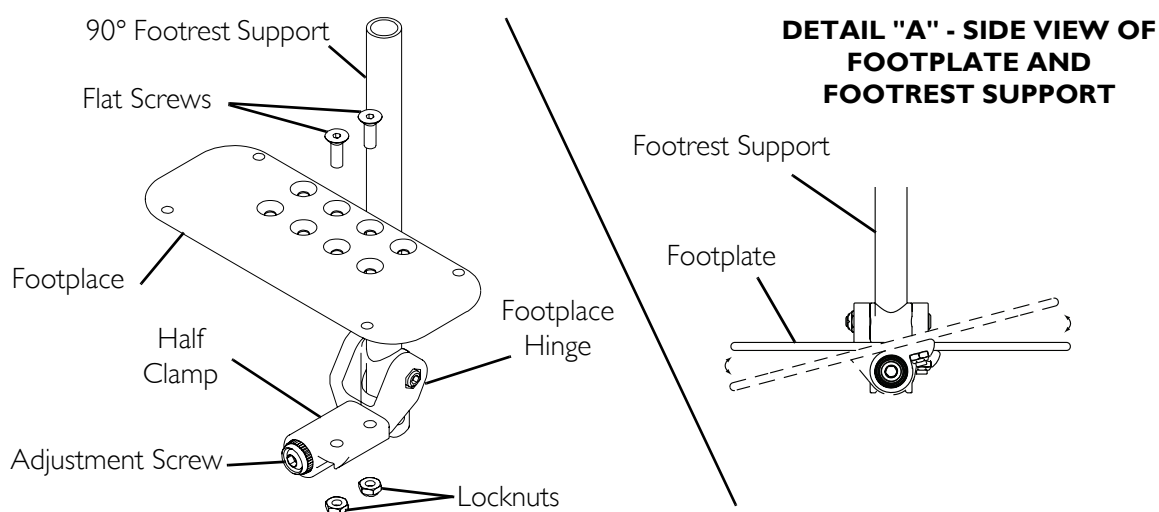

FIGURE 7.3 Adjusting Adjustable Angle Flip-up Footplates
NOTE: For this procedure, refer to FIGURE 7.3.
2. Position the footplate to the necessary angle to accommodate the user (Detail "A" of FIGURE 7.3).